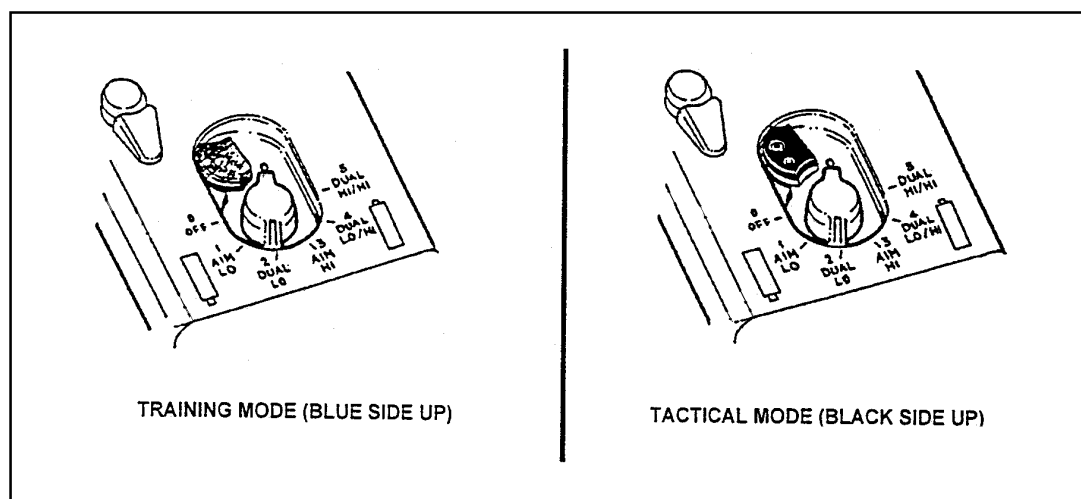

Figure G-12. Safety block installation.
- b. **Safety Block Installation** (Figure G-12). The safety block installed in the training mode (blue side up) prevents the operator from accessing the non-eye safe modes (AIM HI, DUAL LO/HI, DUAL HI/HI). A .050 hex head Allen wrench is needed to unscrew the block from the body and reinstall it in the tactical mode (black side up).